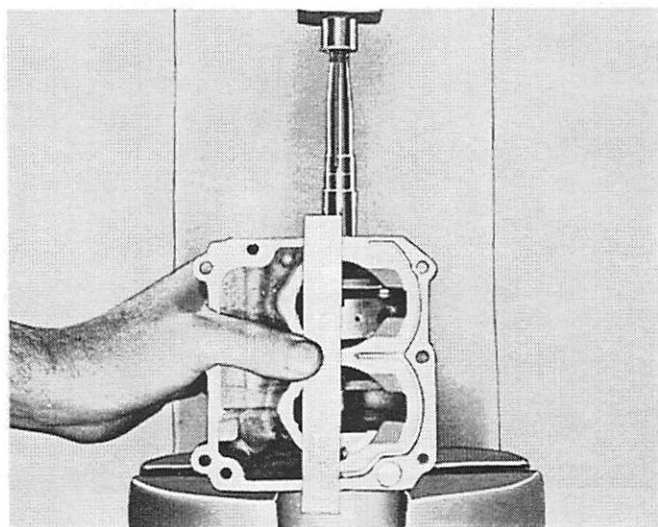

Figure 10. Pressing in Crankshaft
2. Place shaft into crankcase with tapered end up and align bleed hole in center main bearing directly in line with bleed hole in crankcase and vertical scribe mark which was scored in when disassembled. Use a steel machinist's rule. (Figure 10)
3. Press crankshaft in until line scribed on center main bearing (when removed) lines up with radius of center bridge of crankcase. (Refer to Figure 10.)